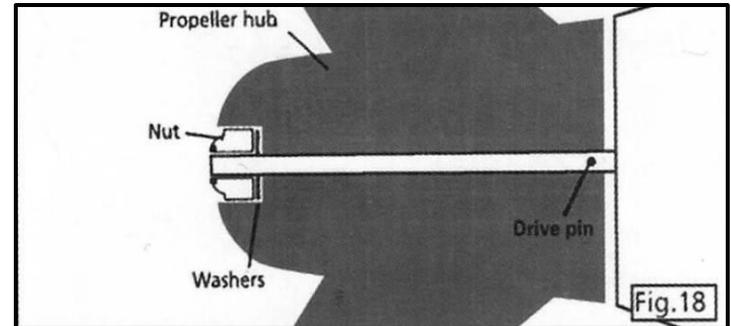

Fig.18
9. Replace the washer(s) and nut and tighten the socket while holding the Propeller making sure it is securely fastened – see Figure 18.